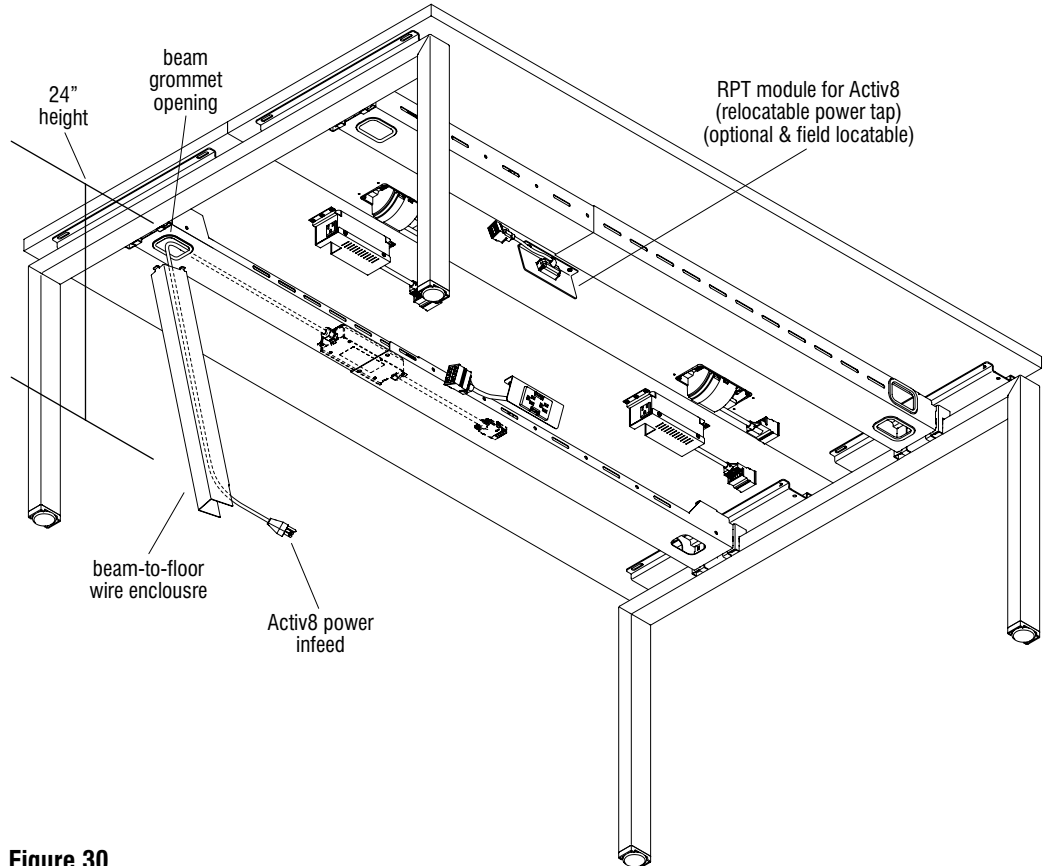

Figure 30
1. Position the beam-to-floor wire enclosure as illustrated, with three tabs up. Angle the data infeed under the beam grommet opening and insert the "back tab" and one "side tab" up through the grommet opening in the beam. With a strong hand, compress the side walls up by the two side tabs and insert the remaining side tab up through the grommet opening, rotating the beam-to-floor wire enclosure into place and vertical to the floor (Figure 30 & Detail M).
2. When installation of beam-to-floor wire enclosure is complete, the bottom of the enclosure should rest firmly on the floor. If it is not secure, lower the adjacent leg leveling glides to increase pressure to secure the enclosure (Figure 30).